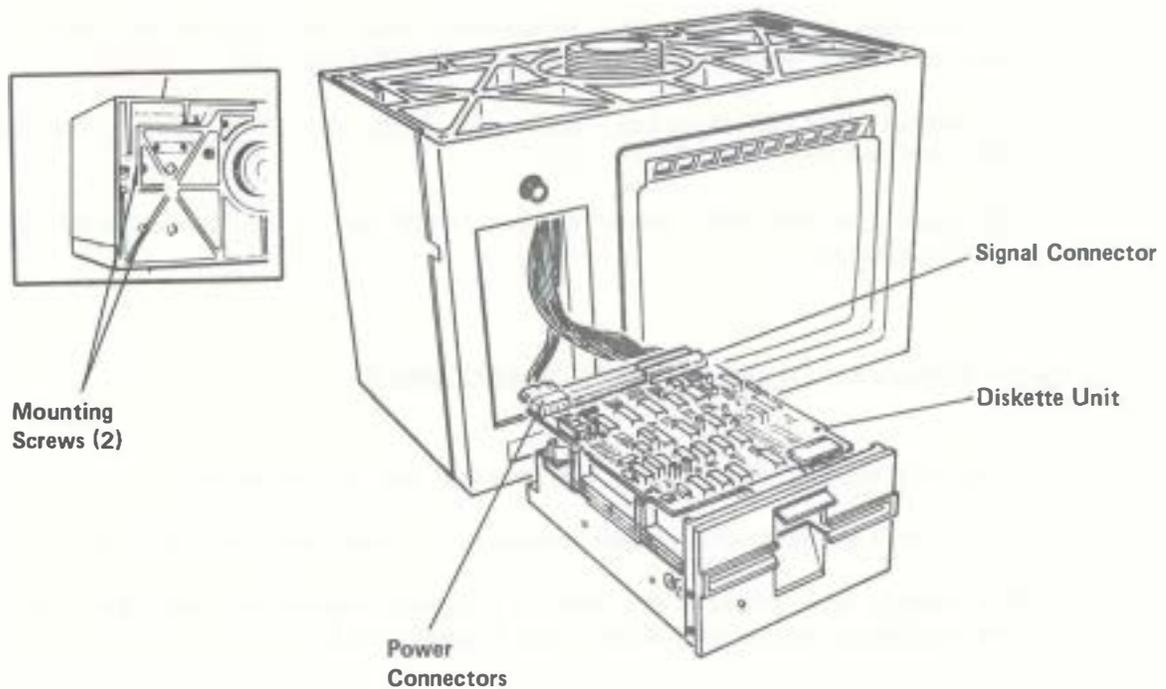

Figure 5-21. 5 1/4" Diskette Drive
5. Carefully place the assembly upside down on a flat surface so that the two diskette mounting screws under the CRT are visible. It may be necessary to loosen the gimbal and rotate the bridge to gain access to the mounting screws. See Figure 5-21.
1. Reconnect the two connectors to the diskette drive. Be sure the connectors are seated properly. See Figure 5-21.
2. Carefully slide the diskette drive into the CRT display unit housing and secure it with the two mounting screws. See Figure 5-21.